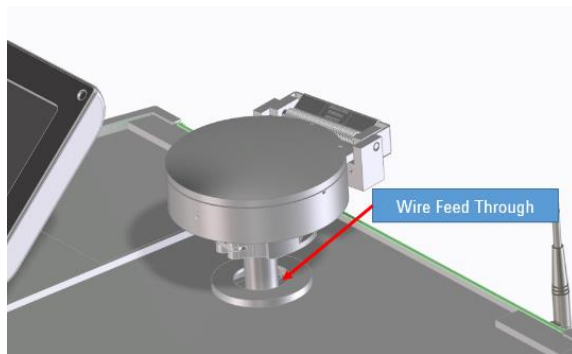

Figure 9: Wire Feed Through
19. Carefully feed the Flapper Box Wire Harness leads through the hole by the test port (“Figure 9: Wire Feed Through”).